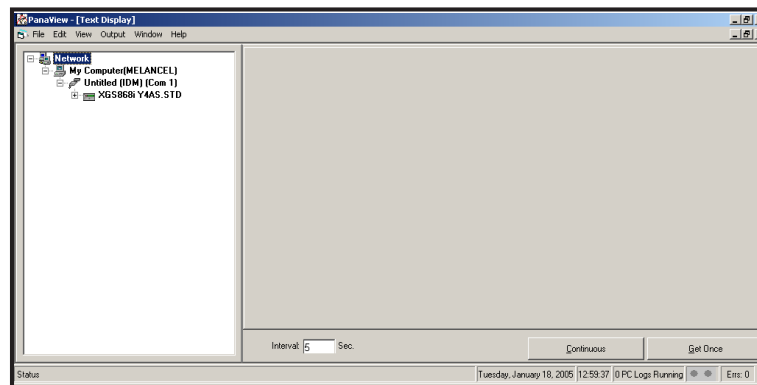

Figure 3: The Text Display Window
3. Using the *Window* menu, arrange the open windows in the desired format. For this discussion, Figure 3 shows the *Text Display* window in its maximized (full-screen) size.
Note: Figure 3 has been compressed both vertically and horizontally for improved clarity.
5. Before actual data values can be displayed in the text pane, activate one of the following data collection modes (see Figure 3 on page 47):